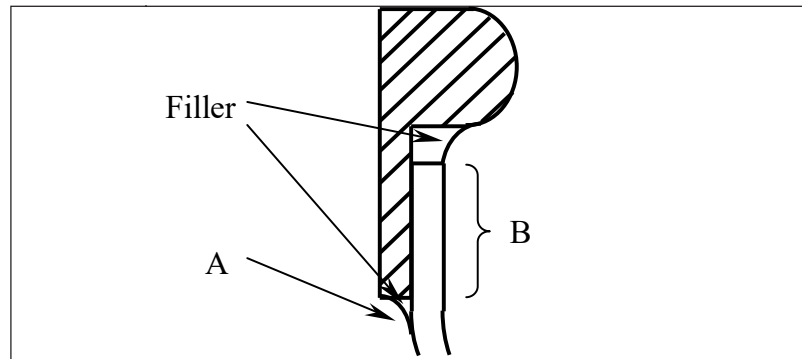

Figure 12 Canopy adhesive remainders
- 20 Sand down (using Scotch Brite Handpad Fine) a small area around the outside edge between canopy frame and canopy glass (area A in Figure 12).
- 22 Sand down (using Scotch Brite Handpad Fine) the overlapping part between canopy glass and canopy frame on the inside (Area B in Figure 12).